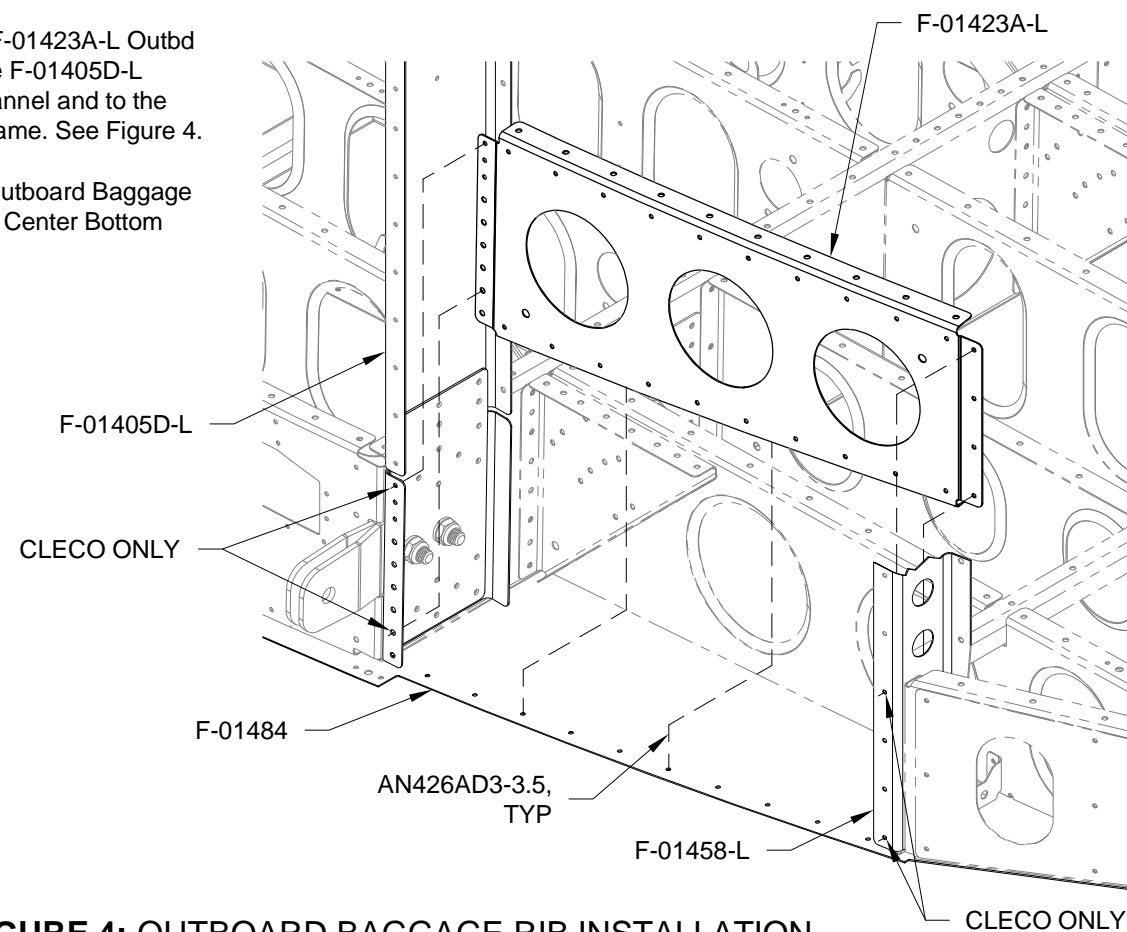

FIGURE 4: OUTBOARD BAGGAGE RIB INSTALLATION
Step 6: Cleco the F-01423A-L Outbd Baggage Rib to the F-01405D-L Bulkhead Side Channel and to the F-01458-L Side Frame. See Figure 4.